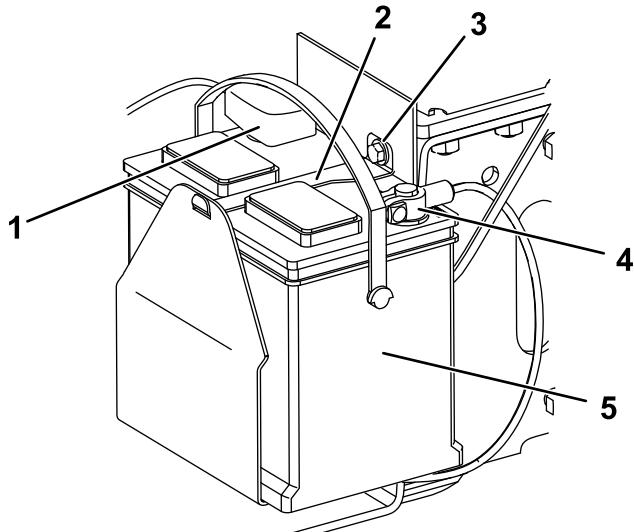

Figure 38
1. Bolt (3)
5. Remove the bolt, washer, and bar securing the battery (Figure 38).
6. Disconnect the negative (black) ground cable from the battery post (Figure 38). Retain the fasteners.
8. Disconnect the positive (red) cable from the battery post (Figure 38). Retain the fasteners.
1. Using the fasteners previously removed, install the positive (red) battery cable to the positive (+) battery terminal (Figure 38).
3. Using the fasteners previously removed, install the negative (black) battery cable to the negative (-) battery terminal (Figure 38).
4. Secure the battery using the bar, bolt, and washer (Figure 38).